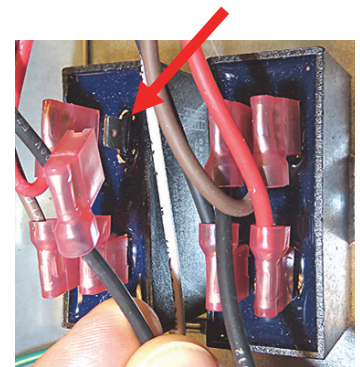

Figure 13
16. Using needle nose pliers remove the loose black wire from the top right connector of the left capacitor (see Figure 13).